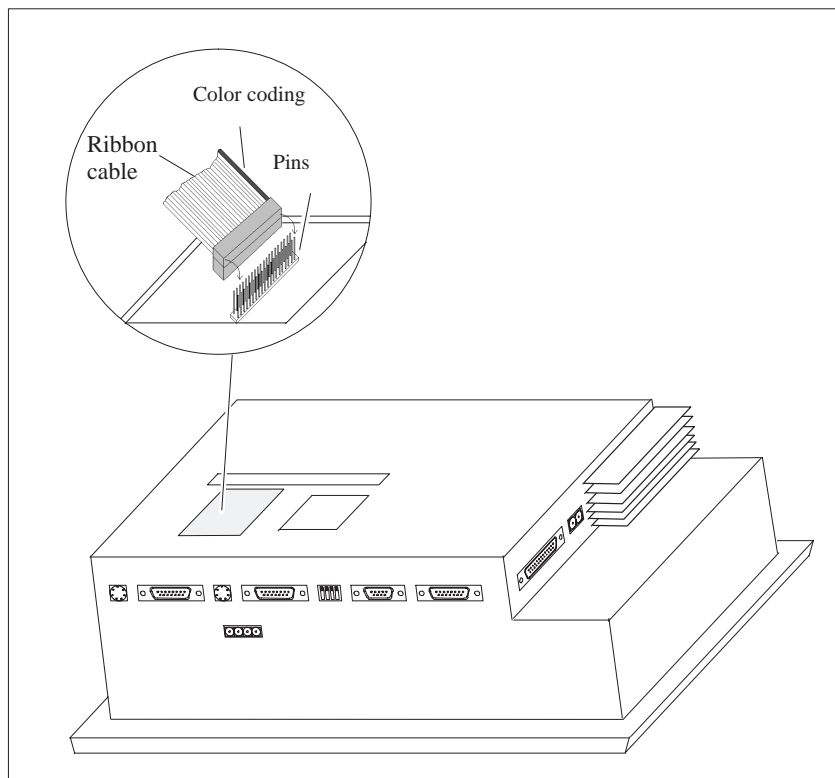

Figure 17-6 Connecting the control panel interface (example: TP37)
3. Connect the plug of the CPI ribbon cable to the Touch Panel pin array so that the colored side of the ribbon cable faces in towards the inside of the unit (illustrated in an example of the TP37 in figure 17-6).